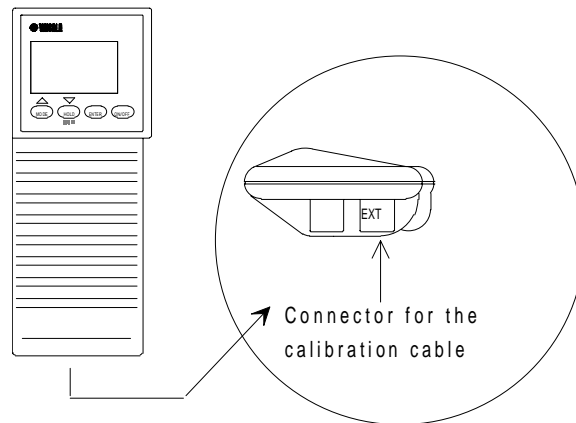
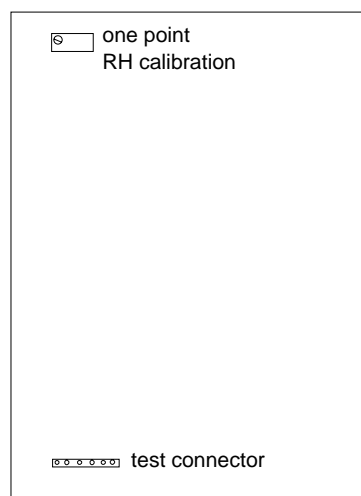

Figure 2.1 Location of the HMI41 calibration connector
Figure 2.2 Calibration connector and potentiometer in the HMP130 series transmitters
After having selected the desired function (Chapter 1.2), turn the HMI41 off and connect the calibration cable to the EXT connector at the bottom of the HMI41 (Figure 2.1). Connect the other end of the cable to the appropriate connector in the transmitter (Figures 2.2 - 2.4).
- Wait until the readings have stabilized and adjust the calibration potentiometers (Figures 2.2 - 2.4) until the readings on the first and the second line are the same. It is recommended to use the offset potentiometer if the RH is <65 %RH and the gain potentiometer if the RH is ≥ 65 %RH.
- Wait until the readings have stabilized and adjust the calibration potentiometers (Figures 2.2 - 2.4) until the numbers on the first line are as close to zero as possible. It is recommended to use the offset potentiometer if the RH is <65 %RH and the gain potentiometer if the RH is \geq 65 %RH.